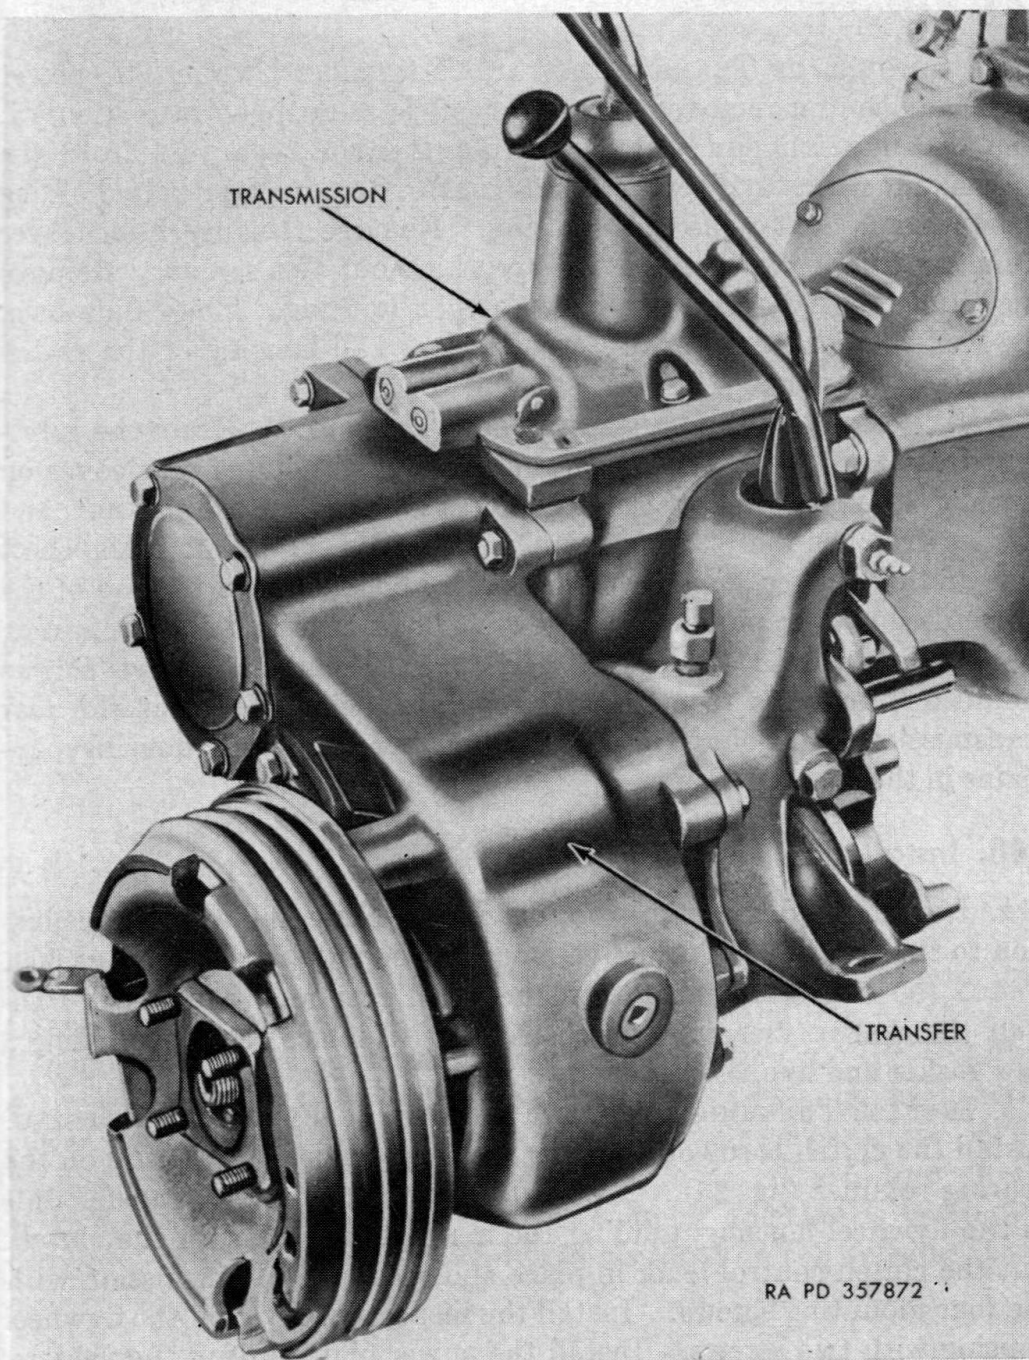

Figure 38. Transmission and transfer.
*a. DESCRIPTION.* The transmission (fig. 38) is a selective, three speed gear box with synchronized second and high speed gears. It is part of the power plant unit (fig. 14) with the engine, clutch, transfer case, and radiator. The gears are shifted by a cane type lever extend-
*a. DESCRIPTION.* The transfer (fig. 38) is an auxiliary gear unit attached to the rear of the transmission. It essentially is a two-speed transmission providing an additional gear reduction for any selection of the transmission gears and also a means of engaging and disengaging power to the front axle. Shifting is accomplished by two levers located to the right of the transmission shift lever. Use of these levers is covered in paragraph 25c. A power-take-off aperture is located at the rear. The hand-brake assembly is mounted on the housing at the rear axle output shaft.